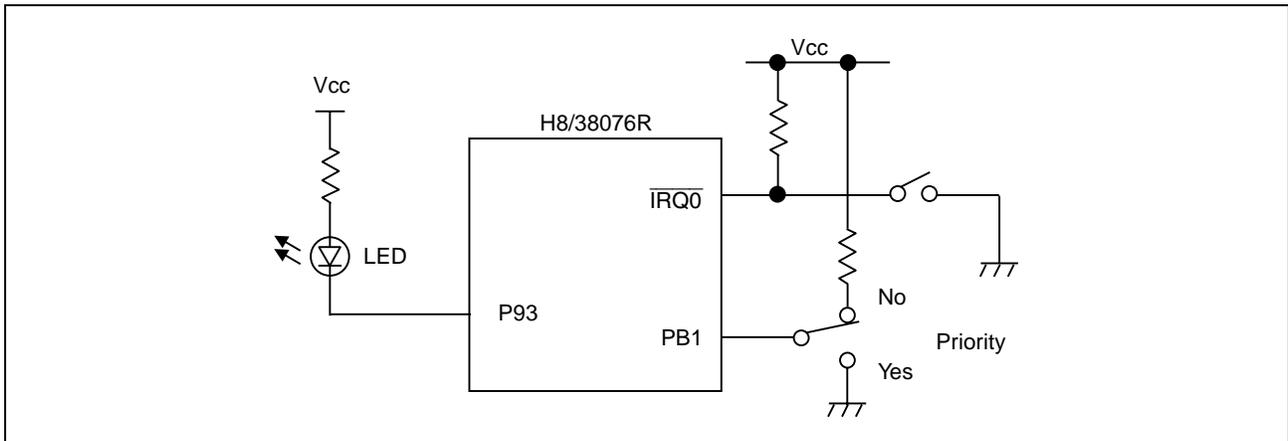

Figure 1 Example of Connections for This Sample Task
6. A sample connection diagram is shown in figure 1.